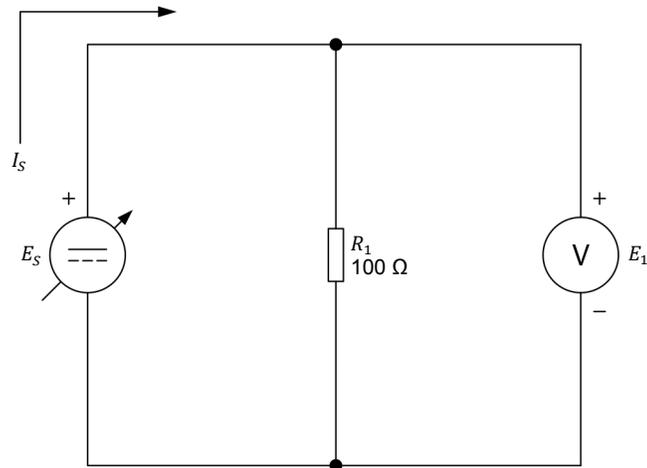

Figure 25. Measuring the power consumed by a resistor.
3. Set up the circuit shown in Figure 25. To obtain the resistance value (R_1) of Figure 25, make the necessary connections and switch settings on the **Resistive Load** module.